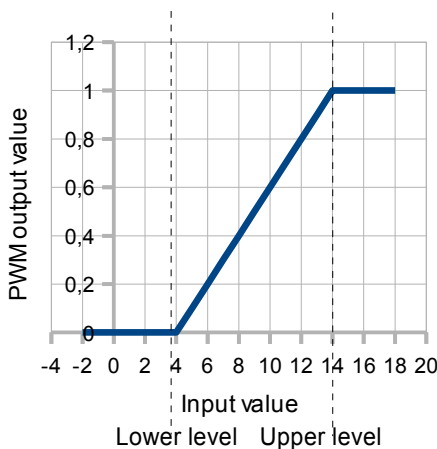

Fig. 7.72. Input-output characteristic of signal in PWM mode for parameters: **Lower level**=4, **Upper level**=14
- **Lower level** and **Upper level** - by setting these parameters range is defined within which the change width of pulse depending on the source signal; below this range the signal is zero (zero width) and above this range the signal is completely filled (Fig. 7.72),